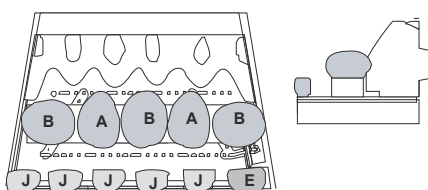

Figure 30
4. Insert the J & E pebbles centrally onto the spikes and place the A & B pebbles on the middle matrix ensuring the same orientation as shown in **Figure 30**.